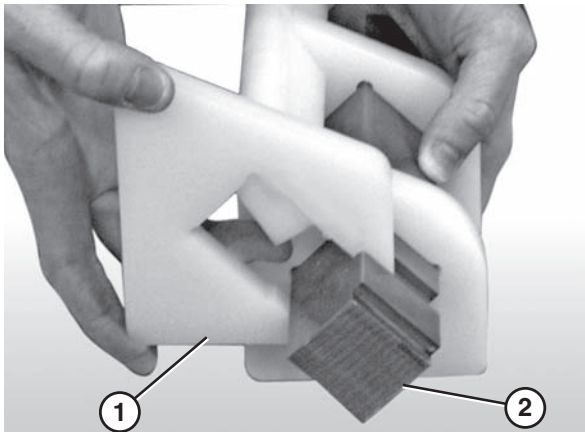

Figure 87
3. Attach the nose bar tracking pucks (Figure 87, item 1) to the nose bar drive post (Figure 87, item 2).